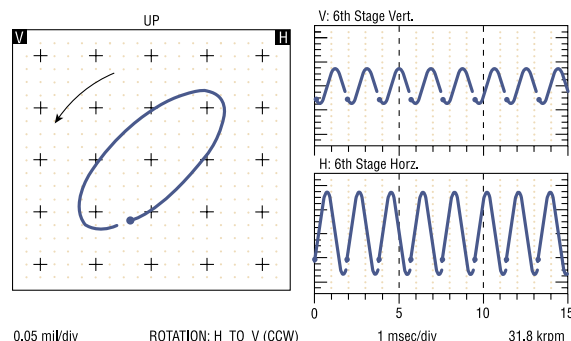
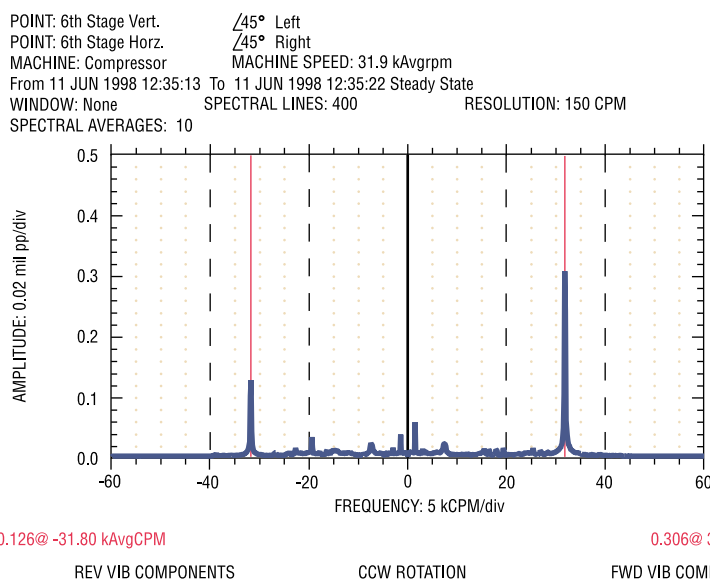
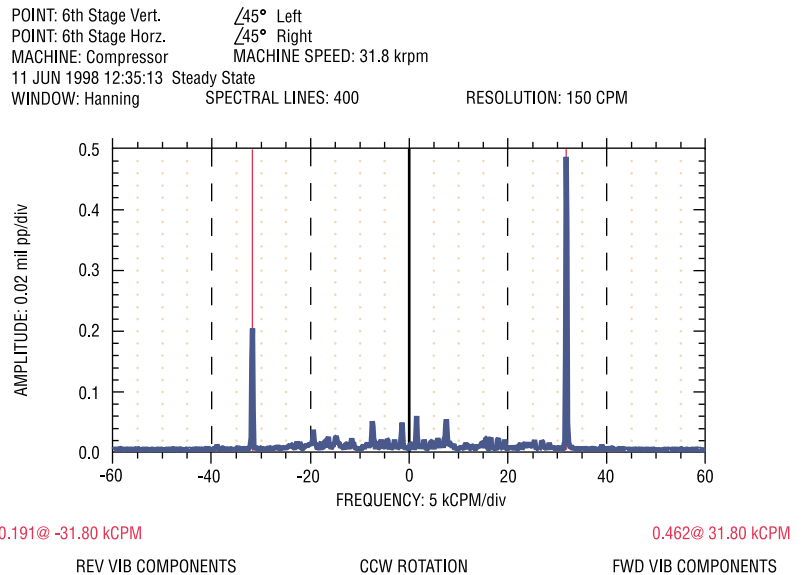

Figure 2. Customer's 1X, uncompensated orbit/timebase plot @ 31,800 rpm.
Figure 3. Customer's full spectrum plot @ 31,800 rpm (no window applied, averaged).
Figure 4. Customer's full spectrum plot @ 31,800 rpm (Hanning window applied no averaging).
A Your orbit plot (Figure 2) shows the 1X, uncompensated orbit/timebase plot generated for the vertical and horizontal probe pair. Vibration in the vertical direction is 0.290 mil (7.37 μ m) pp at 231°, and 0.694 mil (17.6 μ m) pp at 143° for the horizontal. Measuring the major and minor axes from the 1X orbit plot yields 0.695 mil (17.6 μ m) and 0.295 mil (7.49 μ m), respectively. Contrast this to the full spectrum plot for the same probe pair (Figure 3), which shows a forward 1X amplitude of 0.306
5. Windowing functions tend to introduce greater or lesser amplitude and frequency errors in an attempt to minimize leakage. Your full spectrum plot (Figure 3) was generated using no window function. The Hanning window function is recommended as the best compromise, to reduce waveform sampling inaccuracies and correct leakage of the frequency domain peaks in the full spectrum plot FFT.
Since we had access to your ADRE data file, we were able to plot a full spectrum of your data, using a Hanning window and no averaging (Figure 4). It yields major and minor axes of 0.653 mil (16.6 μm) and 0.271 mil (6.88 μm), respectively. These values are much more consistent with those from the uncompensated orbit plot (Figure 2).